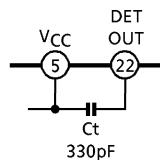

Fig.3 Countermeasures for AM tweets
It is necessary to connect the capacitor Ct (about 330pF) between  $V_{CC}$  terminal (pin⑤) and DET OUT (pin㉒), in case that AM tweets occurs by pattern layout. (Fig.3)